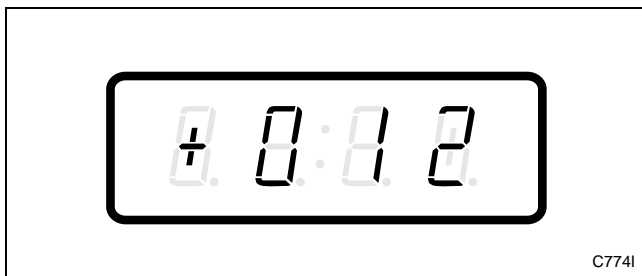

Figure 24
3. Press the DELICATES (+) or the COLD (-) keypad to scroll through the programmable options until “+012” appears in the VFD. Refer to *Figure 24*.